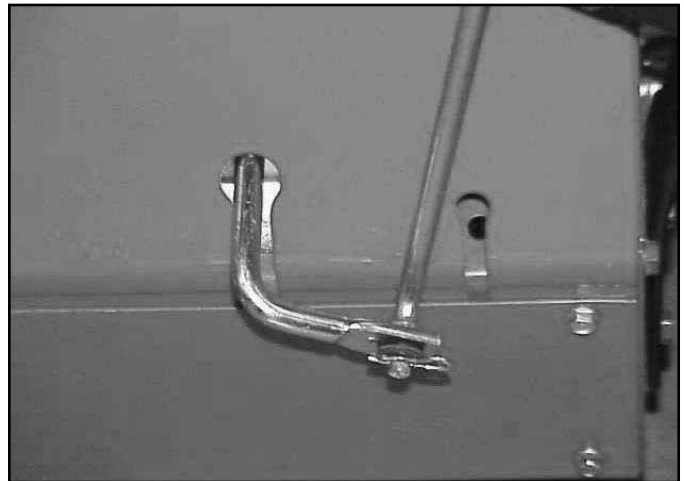

Fig 040
2. Pull the shift rod and arm upward as far as they will go. With the shift lever in R2, adjust the trunion to take the slack out and resecure (Fig. 040).